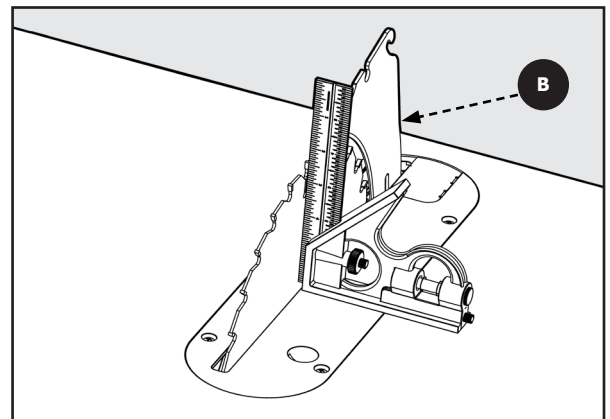

Figure 40
- 2. Vertical Alignment:** Place a combination square on the table and against the blade face and make sure it extends up along the riving knife **B** see Figure 40. The riving knife and blade should touch the carpenter's square with no gaps. Be sure the straight edge goes between the teeth and rests on the blade face and the riving knife for proper alignment.